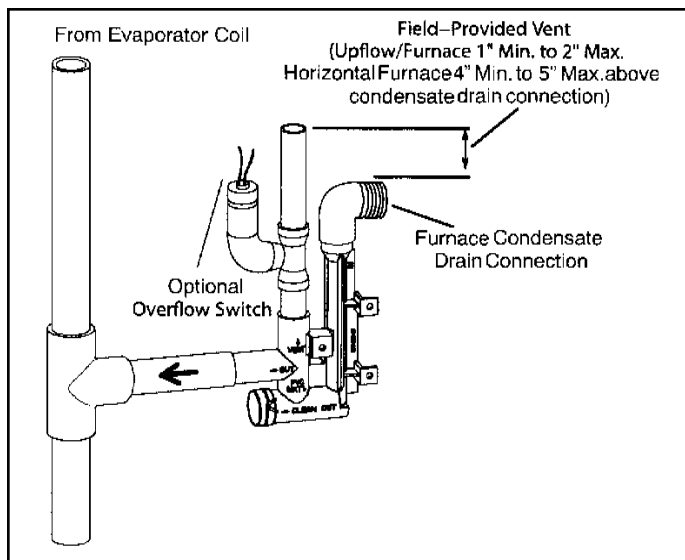

Figure 40. Condensate Trap with Optional Overflow Switch
3. Install the cap over the clean out opening at the base of the trap. Secure with clamp. See Figure 40.